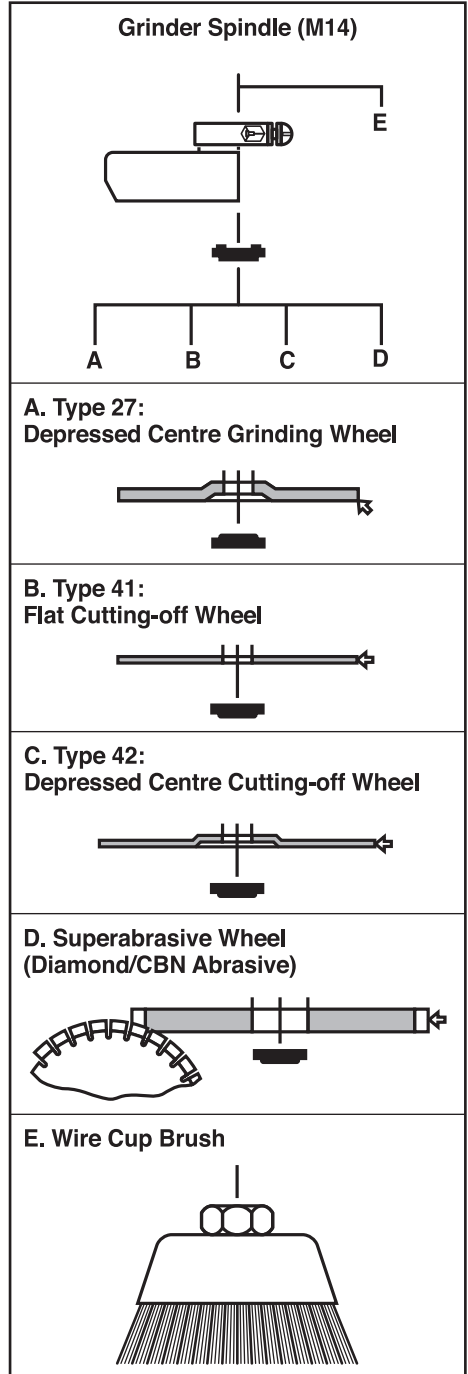

FIG.4
8.3 FITTING/REPLACING ACCESSORIES (sold separately) – FIGS. 4 – 6
8.4 FITTING GRINDING DISCS - FIGS. 4 – 6